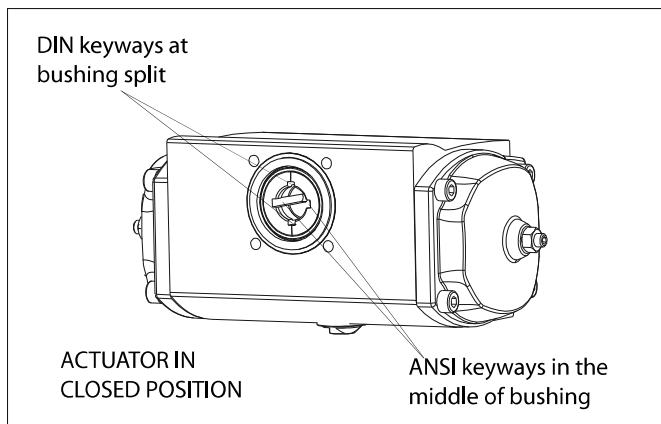

Fig. 40 Keyway positions on the actuator
- Prior to installation, the correct keyway position of the valve has to be checked. The bushing has four keyways, two of which are intended for valves with DIN key and two for valve shafts with ANSI key. The ANSI keyway is located in the middle of the half bushing, and the DIN keyway is located in the split between the bushing halves. Fig. 40 shows the keyway position when the actuator is in a closed position.